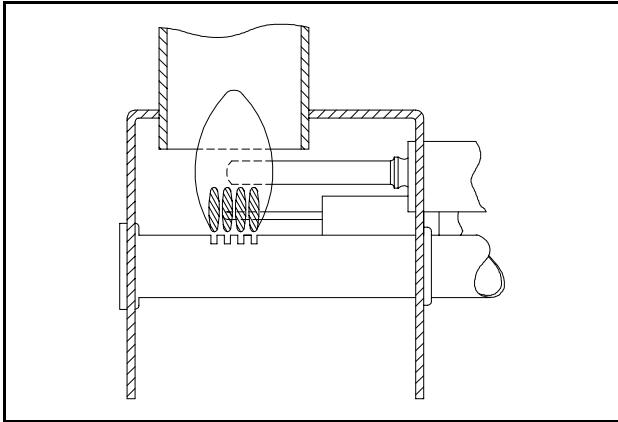

Figure 11
- * Check the flame appearance. Refer to Figure 11. The flame should emerge from all four burner slots with a steady blue color without yellow or smoky tips.
- * The flame envelope should be centered into the fire tube (See Figure 11). If the envelope hits on the side of the fire tube, a noticeable decrease in cooling could be observed. This condition would be caused by physical damage to the burner or fire tube.